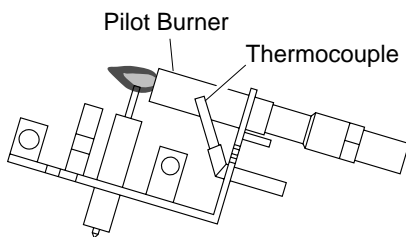
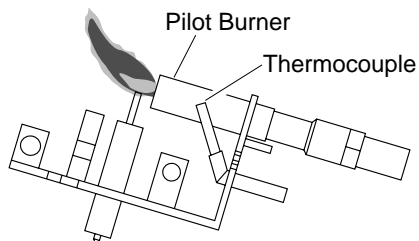

Figure 21 - Correct Pilot Flame Pattern
Figure 22 - Incorrect Pilot Flame Pattern
Figure 21 shows a correct pilot flame pattern. Figure 22 shows an incorrect pilot flame pattern. (*Note:* Appearance of pilot assembly may vary by model.) The incorrect pilot flame is not touching the thermocouple. This will cause the thermocouple to cool. When the thermocouple cools, the heater will shut down.
If pilot flame pattern is incorrect, as shown in Figure 22
2. Inspect burner, pilot, and primary air inlet holes on injector holder for dust and dirt (see Figure 22).